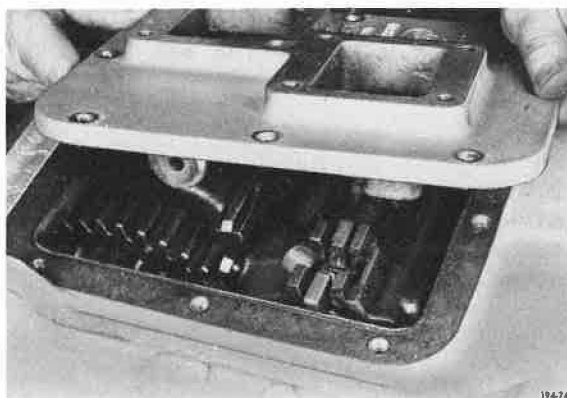

Figure 15. Removing Cover
12. Remove main box top cover. See Figure 15.